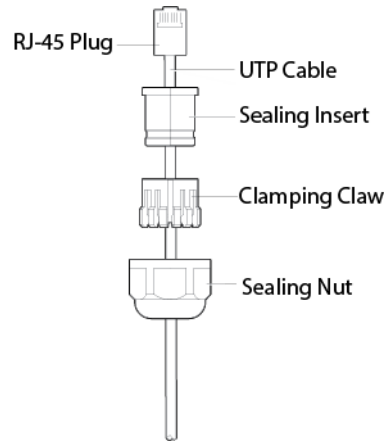

Figure 12. Applying the Sealing Parts to the LAN Cable
3. Pass the LAN cable through the sealing nut, and attach the sealing insert and clamping claw to the cable as shown in Figure 12 on page 44.